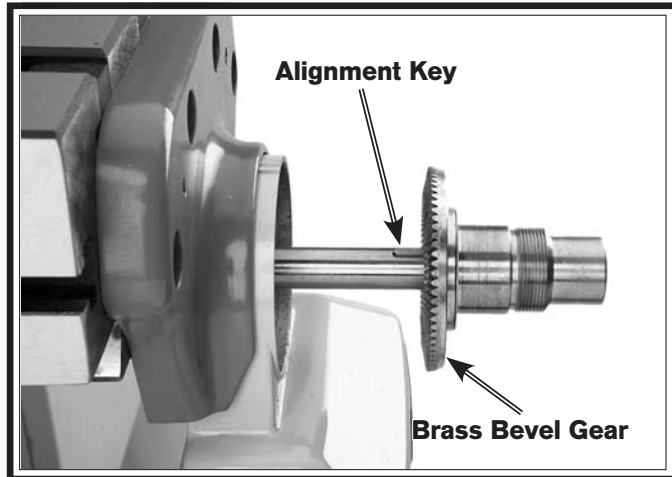

Figure 56. Power feed brass gear and leadscrew alignment key.
4. Remove the brass bevel gear from the leadscrew, then remove the leadscrew alignment key (see **Figure 56**).